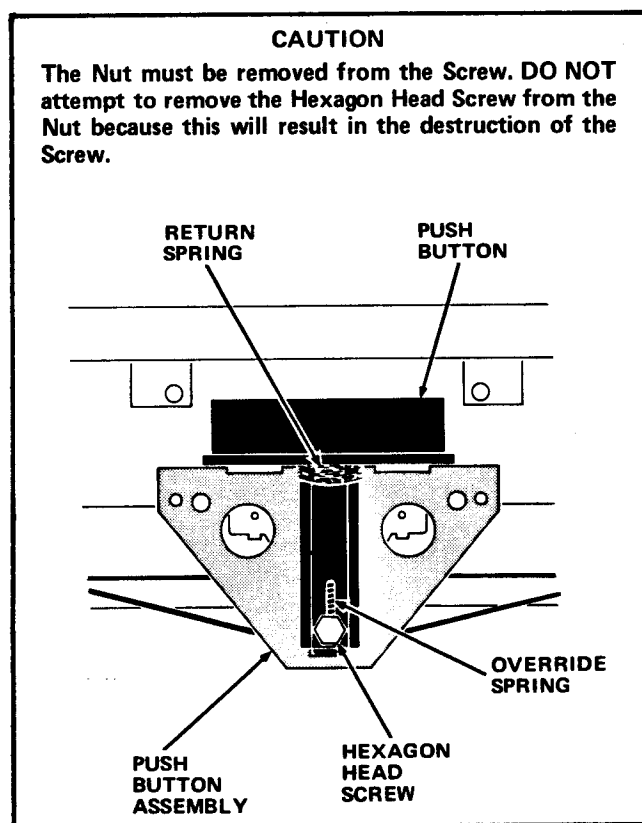

FIGURE 5
10. Depress the Push Button and move the Push Button Assembly, that is to be removed, out of the Channel. The end of the Assembly that is opposite the Button, must be carefully lifted up and back out of the Channel. See Figure 5.
11. Remove the Nut from the Hexagon Head Screw which attaches the Extension Assembly to the Push Button. See Figure 5. A 7/32" Nut Driver is recommended when performing this step.
12. Remove the Hexagon Head Screw from the Push Button and remove the Push Button, Override Spring, and Return Spring from the Channel. See Figure 5.